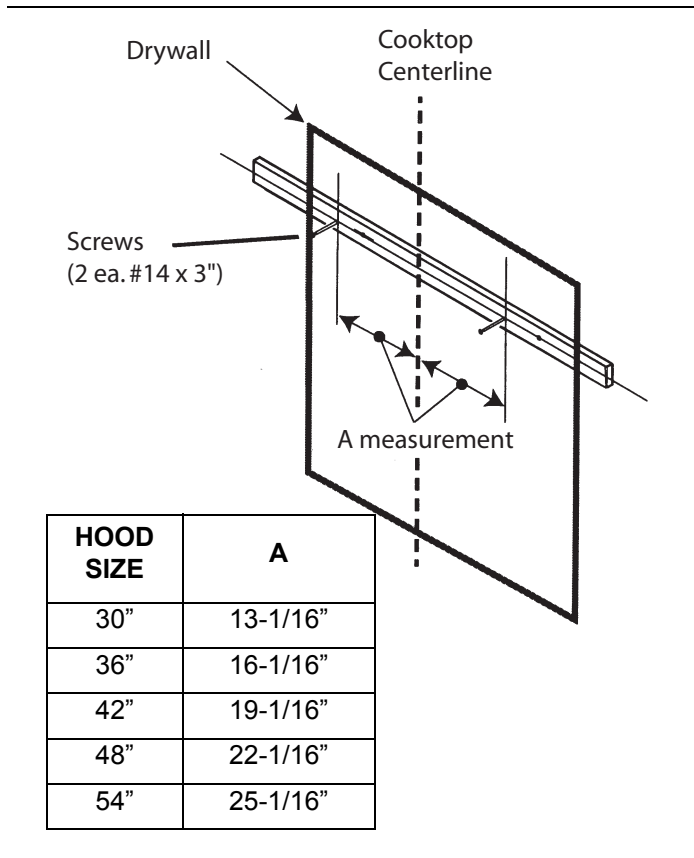

Figure 5: Hanging the Hood
8. On the wood bracket, mark the locations used to hang the hood according to Figure 5.